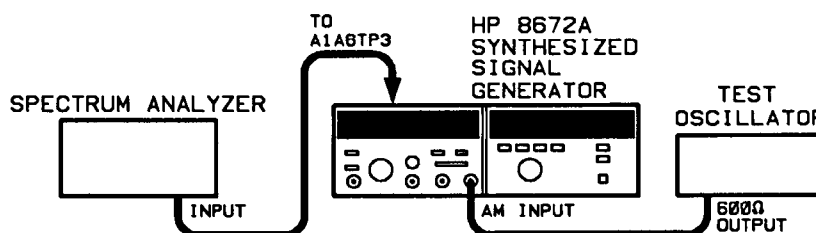

Figure 5-17. AM Bandwidth Adjustment Test Setup
**Procedure** 1. Connect the equipment as shown in figure 5-17.